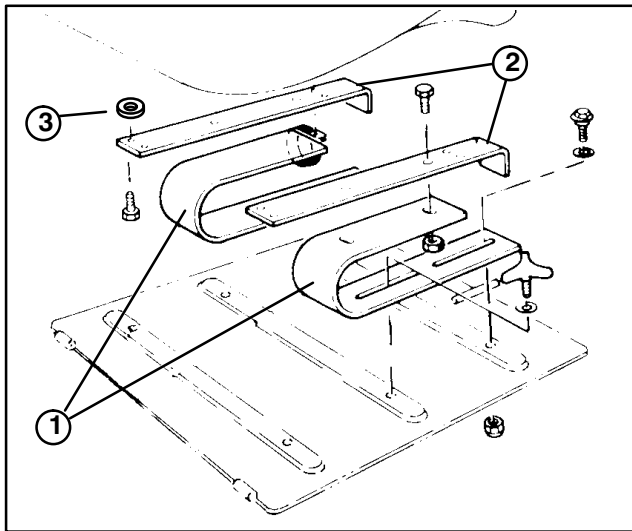

Figure 2
1. Attach "U" springs to seat mounting brackets with (4) capscrews and flange nuts as shown in figure 2.
2. Secure seat mount assemblies to bottom of seat with (4) flange head capscrews and (4) spacers. (Fig. 2). Spacers to be positioned between seat and seat mount.
5. Mount seat and spring assembly to rear holes in seat mounting plate with two shoulder bolts, small I.D. flat washers and locknuts (Fig. 2 & 5).
3. Shoulder bolt with washer and locknut (2)
4. Adjustment handle (2)
6. Secure front slot of seat springs to traction unit front mounting holes with adjustment handles and flatwashers (Fig. 2 & 5).
- Install manual tube into R-clamps, insert manual into tube and thread cap into tube (Fig. 2). Tighten capscrews.